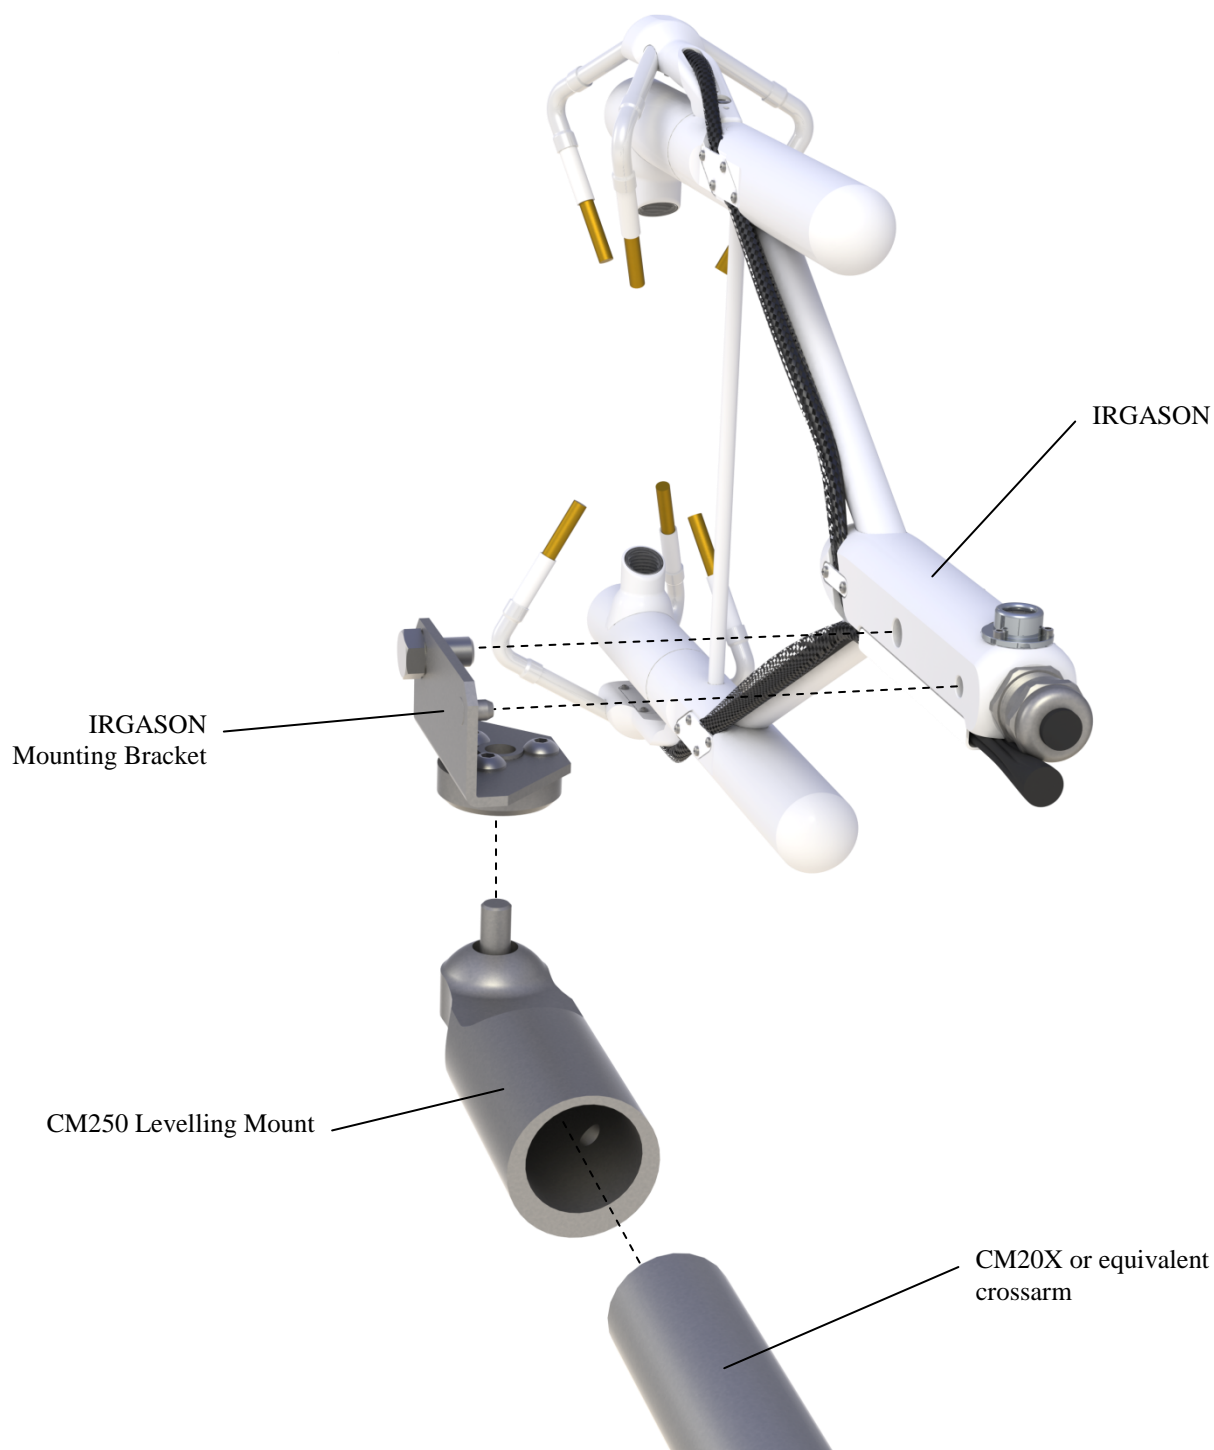

Figure 6-1. Exploded view of mounting the IRGASON
The IRGASON is supplied with mounting hardware to attach it to the end of a horizontal pipe with a diameter of 1.31 in., such as the Campbell Scientific CM202, CM204, or CM206 crossarm. The following steps describe the normal mounting procedure. Refer to Figure 6-1.
3. Bolt the IRGASON mounting bracket to the CM250 Levelling Mount (see Figure 6-1).